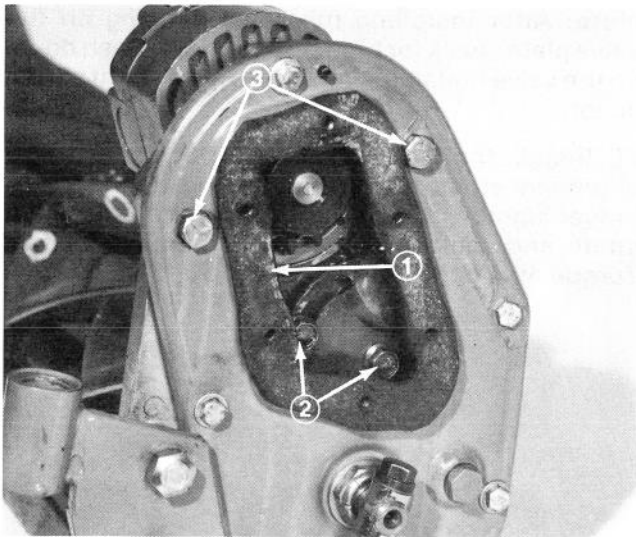

Figure 107
2. Loosen flange screw securing chain idler and slack off chain (Fig. 107).